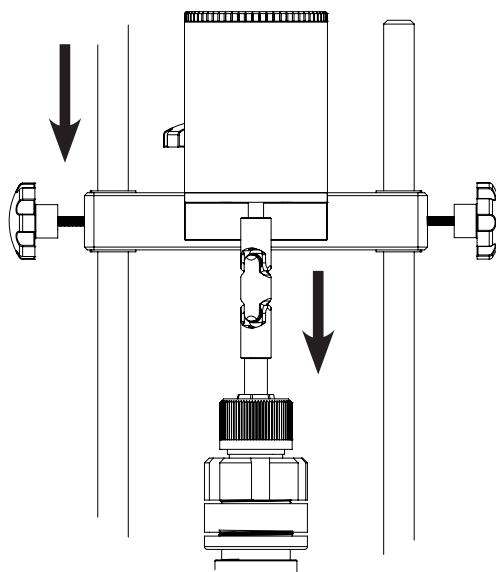

Fig. 24 : Universal Coupling Assembly
- Insert the Universal Coupling into the Motor shaft as shown in fig. 24.